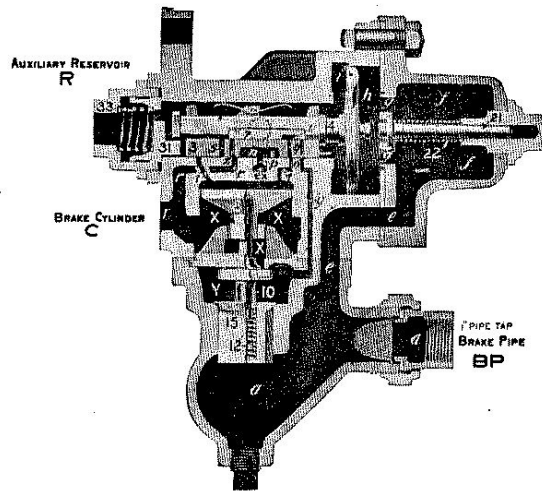

Fig. 16: Lap Position.
A. Air will continue to flow to the brake cylinder until the pressure on the auxiliary side of the triple piston becomes slightly less than that on the brake pipe side, when the piston 4 and the graduating valve 7 will move to the left until the shoulder on the piston stem strikes the slide valve. (See Fig. 16.) This movement has caused the graduating valve to close the service port "Z", thus cutting off any further flow of air from the auxiliary to the brake cylinder and also port "o", thus preventing any further flow of air from the brake pipe to the brake cylinder. The triple valve is now said to be in lap position.